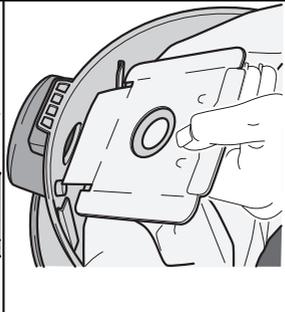

Fig. 2
- Check that the paper bag (3 Fig. 2) is assembled inside the appliance.
- If the paper bag (3 Fig. 2) is not present, assemble it by inserting the square cardboard stiffener into the slot on the drum.